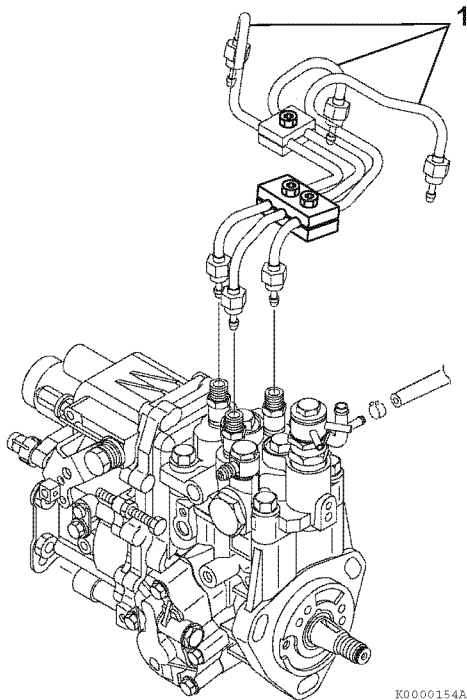

Figure 7-50
2. Remove the high-pressure fuel injection lines as an assembly (1, **Figure 7-50**).